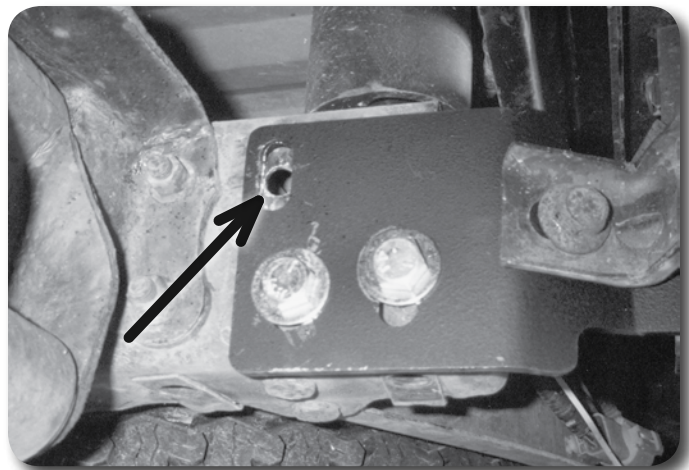

Figure 21
76. The upper mounting hole for the driver's side bracket must be drilled in the frame **Figure 21**. Using the bracket as a guide, drill a 1/2" hole in the center of the slot. Insert a 1/2" x 1-1/2" bolt with 7/16" USS washers and 1/2" nut in the hole and tighten. Torque all rear bumper hardware to 60 ft-lbs.